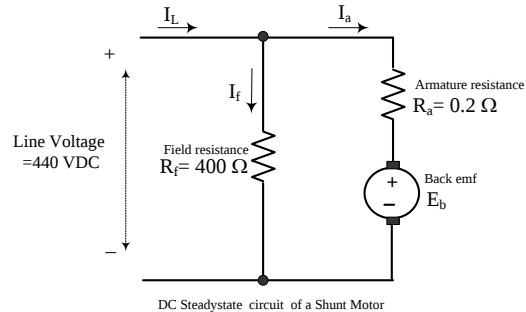

Fig.8
- 8 The steadystate equivalent circuit of a DC shunt motor is shown in Fig.8. The motor nameplate gives the following rated values : 440 volts, 1200 RPM, 100 hp [1 hp = 746 Watts] and a full-load efficiency $\eta = 90\%$.